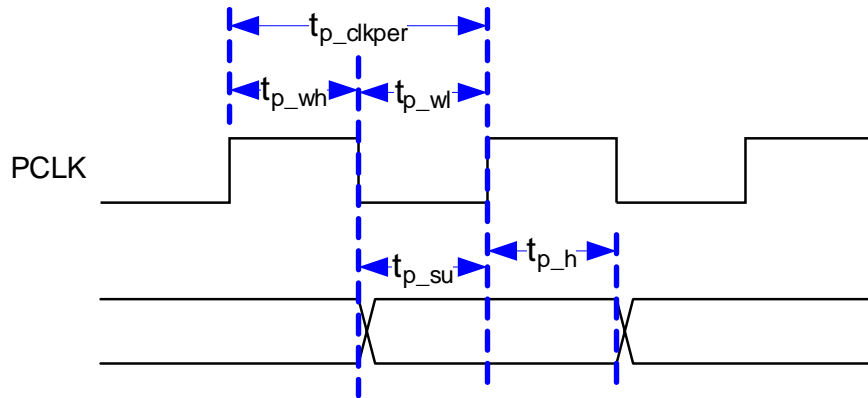

Figure 2. Parallel and BT.656 I/F General Timing
- (1) The BT.656 I/F accepts 8-bit per color, 4:2:2 YCb/Cr data encoded per the industry standard though PDATA(7:0) on the active edge of PCLK (that is, programmable) as shown in Figure 2.
- (2) Clock jitter should be calculated using this formula:  $\text{Jitter} = (1 / f_{\text{clock}} - 28.35 \text{ ns})$ . Setup and hold times must be met during clock jitter.